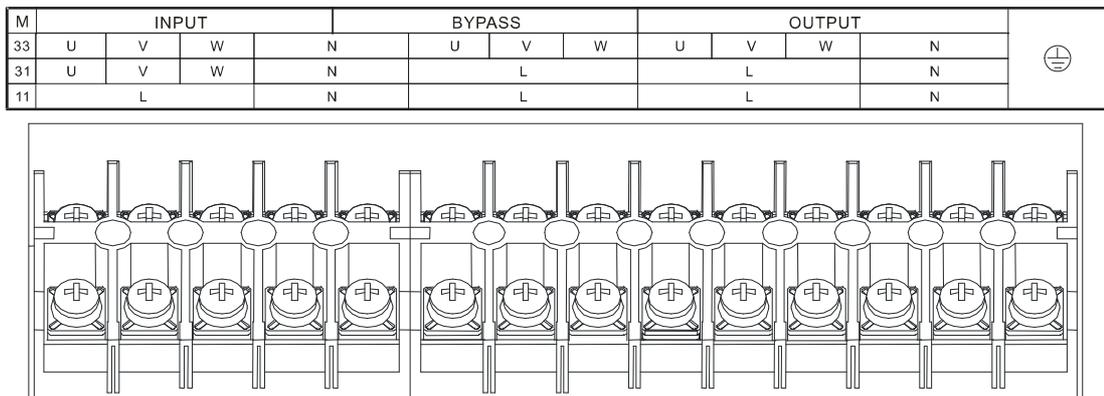
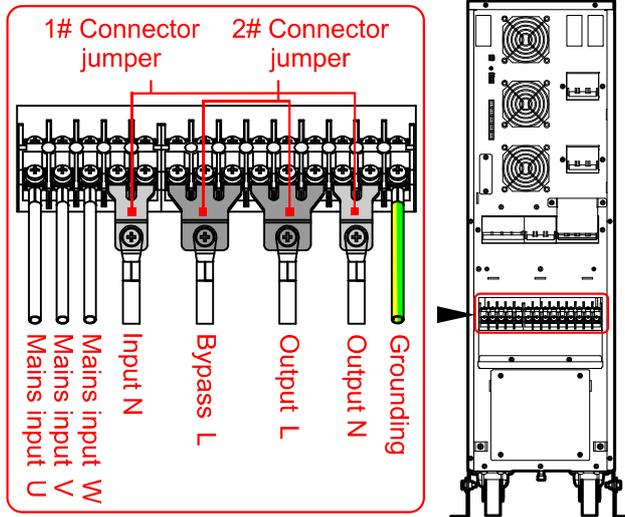
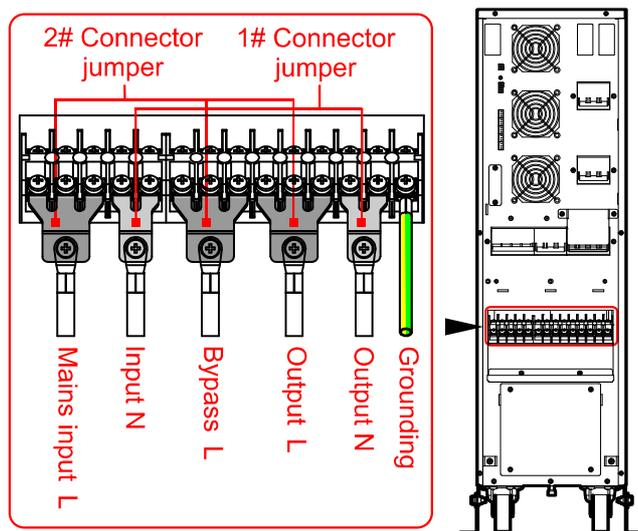

Figure3-12 Wiring terminal silk-screen
Figure3-15 Connector jumper and wiring diagram of 31 mode
Figure3-16 Connector jumper and wiring diagram of 11 mode
Step 2 The 10/10S/10T/15/15S/15T/20/20S/20T mode includes 33, 31 and 11, the corresponding silk-screen shown in Figure3-12. The wiring terminal of 33 mode, 31 mode and 11 mode have a little different, as shown in Figure3-13, Figure3-15 and Figure3-16.
Take out a couple of 1# and 2# connector jumper (1# and 2# connector jumper is optional), connect them to the wiring terminal of UPS (as shown in Figure3-15). Then connect the wires to corresponding port according to the wiring diagram.
Take out a couple of 1# connector jumper and three 2# connector jumper (1# and 2# connector jumper is optional), connect them to the wiring terminal of UPS (as shown in Figure3-16). Then connect the wires to corresponding port according to the wiring diagram.